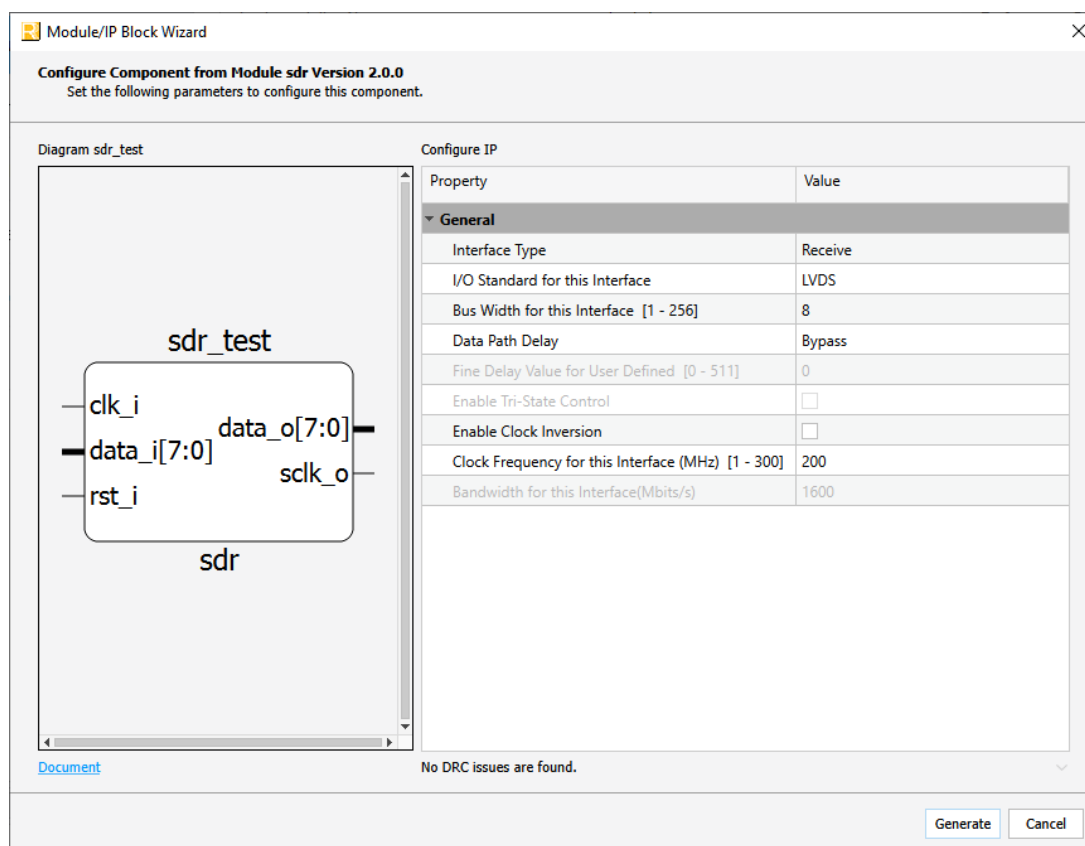
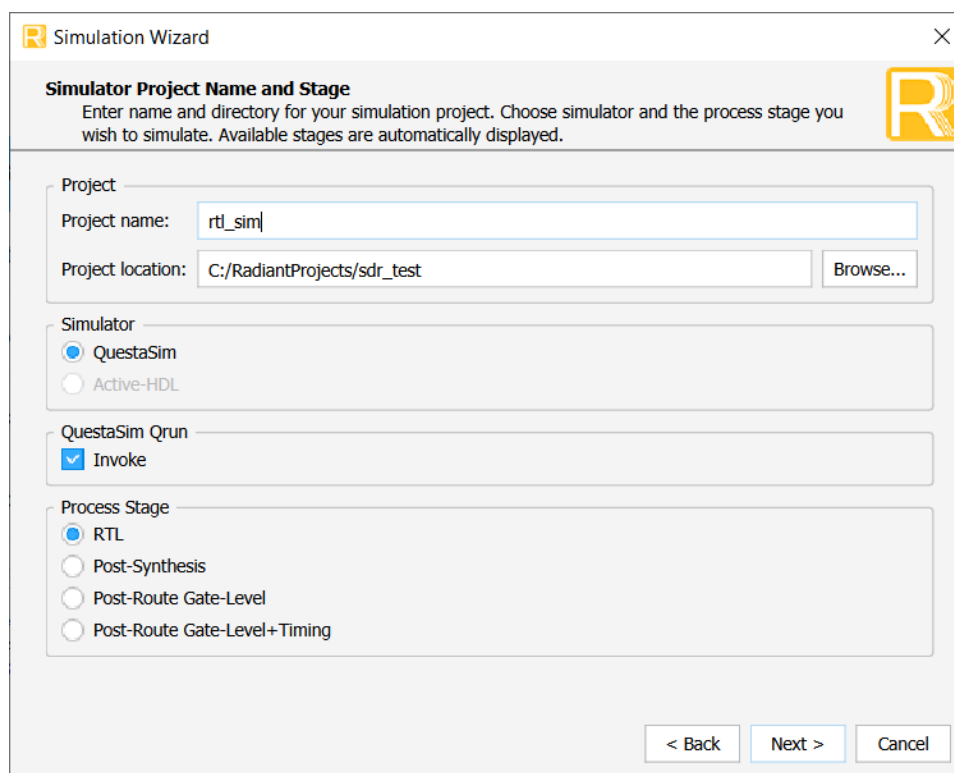

Figure 3.2. Configure Block of SDR I/O Module
Figure 3.4. Simulation Wizard
3. In the module's dialog box of the **Module/IP Block Wizard** window, customize the selected SDR I/O module using drop-down menus and check boxes. Refer Figure 3.2 for sample configuration. For configuration options, see the Attribute Summary section.
1. Click the  button located on the **Toolbar** to initiate **Simulation Wizard**, as shown in Figure 3.4.
IP Generation and Evaluation	- Updated Figure 3.2. Configure Block of SDR I/O Module. - Updated Figure 3.4. Simulation Wizard.